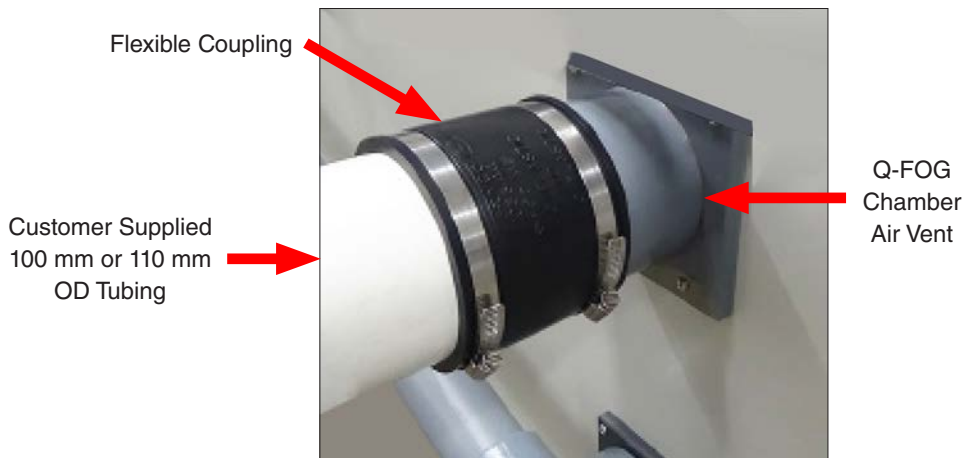

Figure 5.9b: Metric kit flexible coupling installed for straight out venting.
- Optionally, for connection to an exhaust system having 100 or 110 mm outside diameter tubing, a metric installation kit (part number F-70099-K) is available. See Figure 5.9b, c and d for various metric installation configurations.